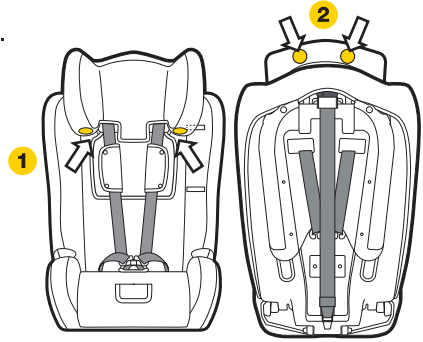

Figure 1
Step 1: Raise the headrest to highest position (refer Figure 1).